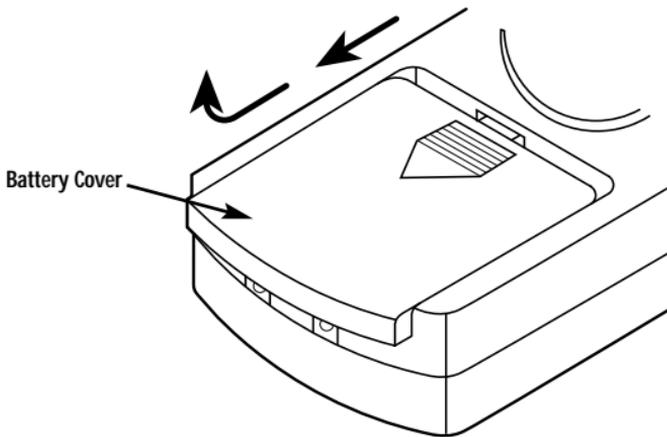

Figure 2-3. Removing the cover.
1. Remove the battery cover on the remote keypad by sliding the top of the battery cover in the direction of the arrow (see Figure 2-3).